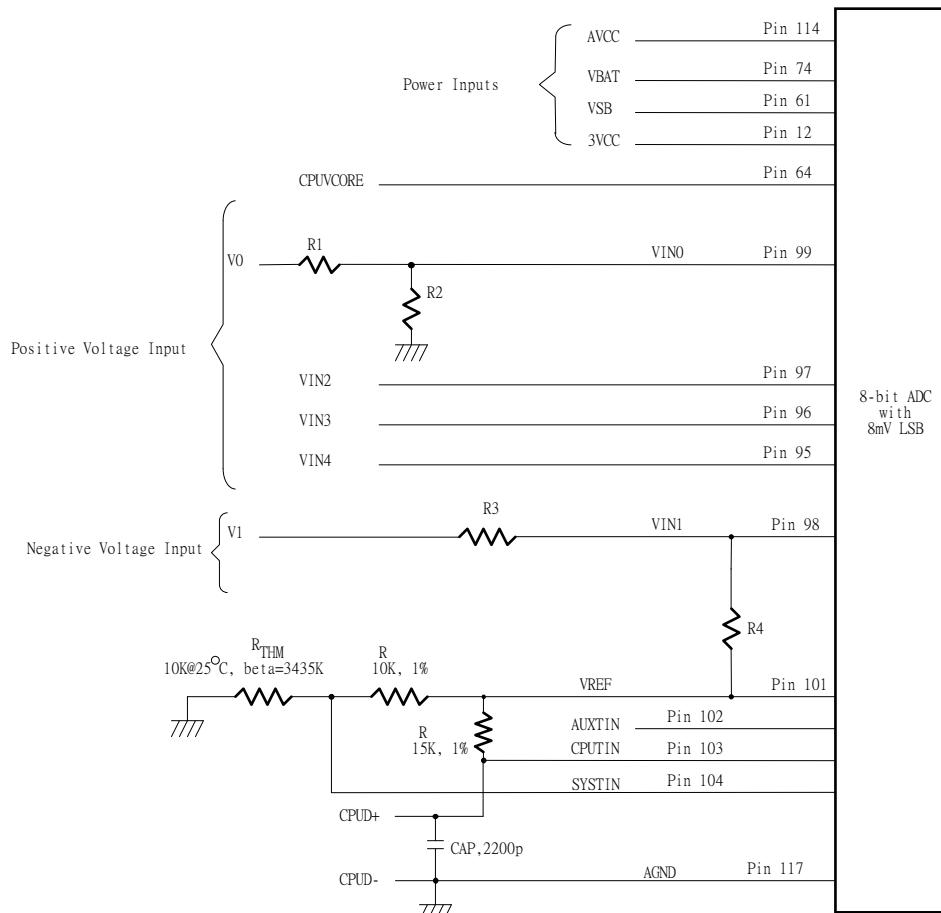

Figure 7.2
The maximum input voltage of the analog pin is 2.048V because the 8-bit ADC has a 8mV LSB. Really, the application of the PC monitoring would most often be connected to power suppliers. The CPU Vcore voltage, VBAT(pin 74), 3VSB(pin 61), 3VCC(pin 12), AVCC(pin 114) voltage can directly connected to these analog inputs. The +12V voltage inputs should be reduced a factor with external resistors so as to obtain the input range. As Figure 7.2 shows.
The W83627EHF/EHG can connect three thermistors to measure three different environment temperature. The specification of thermistor should be considered to (1) β value is 3435K, (2) resistor value is 10K ohms at 25°C. In the Figure 7.2, the themistor is connected by a serial resistor with 10K Ohms, then connect to VREF (pin 101).